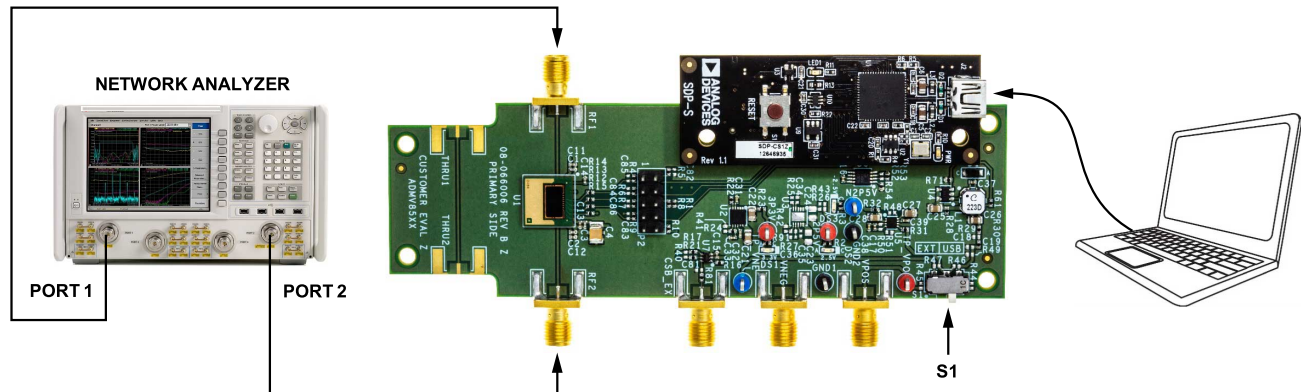

Figure 2. ADMV8513-EVALZ Lab Bench Setup
To power the ADMV8513-EVALZ using the 5 V USB supply, slide the S1 switch to select USB (as shown in Figure 2) to power the on-board negative voltage generator and LDO regulators. Alternatively, the ADMV8513-EVALZ can be powered externally by sliding the S1 switch to select EXT and then connecting the power supplies to
Figure 2 shows an example lab bench setup for the ADMV8513-EVALZ. To observe the filter response from the ADMV8513-EVALZ, connect the RF1 and RF2 ports to a network analyzer (or similar instrument). Typically, RF1 and RF2 are connected to Port 1 and Port 2 on the network analyzer, as shown in Figure 2.
1. Connect the RF1 and RF2 ports to a network analyzer (or a similar instrument). Typically, RF1 and RF2 are connected to Port 1 and Port 2 on the network analyzer, as shown in Figure 2.
3. On the ADMV8513-EVALZ, slide the S1 switch to select USB (as shown in Figure 2) to power the ADMV8513-EVALZ from the 5 V USB supply voltage from the PC via the SDP-S.